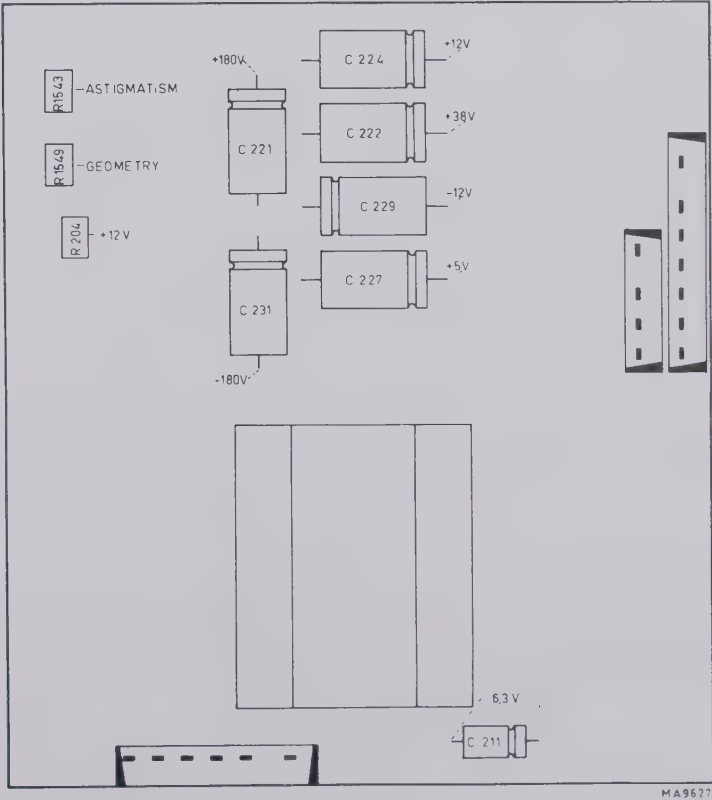

Fig. 3.15. Adjusting and checking the power supply
- Check that the voltage across capacitor C224 is +12 V, + or –0,25 V; if necessary readjust potentiometer R204 (Fig. 3.15).
C211 (Fig. 3.15)	6.3 V, ± 0,6 V
- Adjust FOCUS potentiometer R6 and astigmatism potentiometer R1543 for a sharp and well-defined trace (Fig. 3.15).
If necessary readjust potentiometer R1549 (Fig. 3.15).